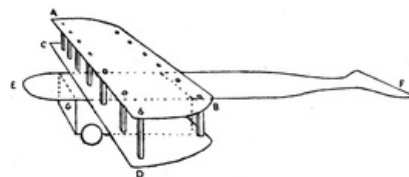

FIG. 115
**A Bristol Biplane** (Fig. 115). A B, C D are two strips of paper, in length about four times the length of a match-box, in width nearly three-quarters the length of a match-box. These are fastened together by match sticks, as shown in the diagram.